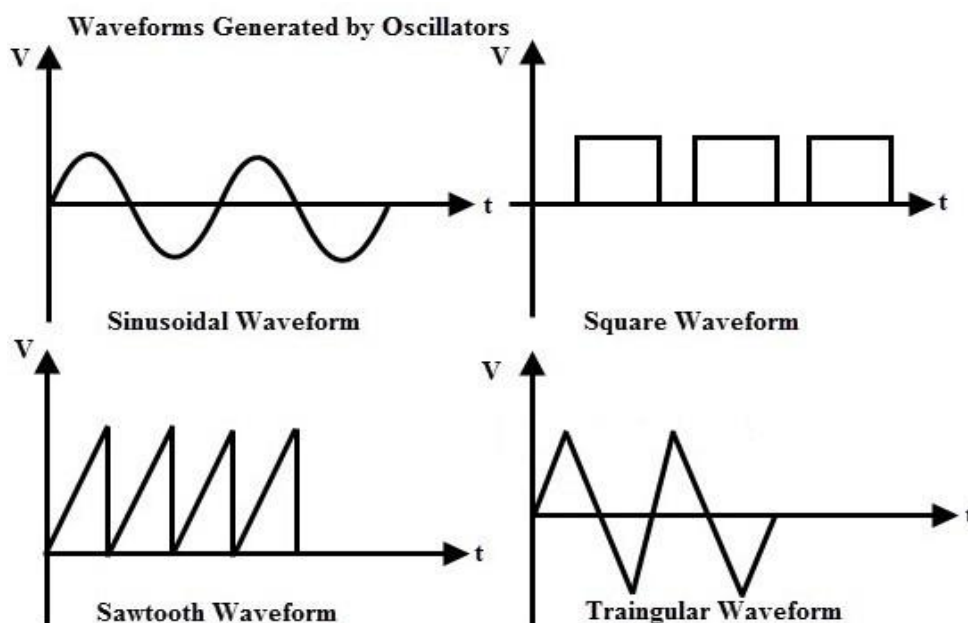

Fig. 3.6 Oscillating waveform
- Output of oscillator may be sinusoidal or non-sinusoidal as shown in the fig 3.6